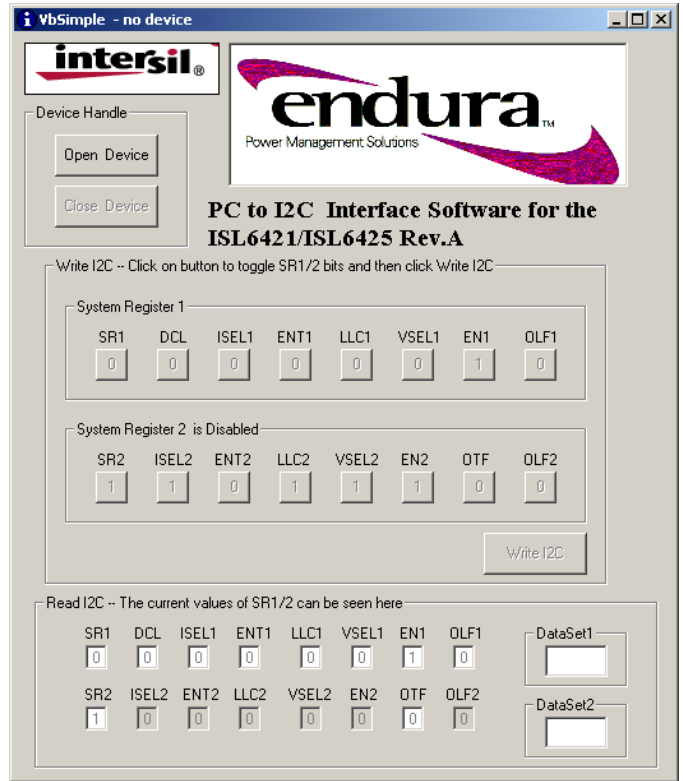

FIGURE 3. PC TO I²C APPLICATION WINDOW
- Run the ISL6421&25_I2C_reva.exe program copied to C:\some directory'. Figure 3 shows the PC to I²C software application window. Click the 'Open Device' button.